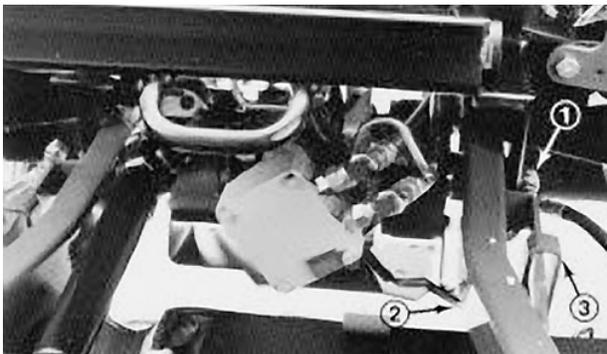

Figure 65
3. Disconnect the (3) hydraulic lines (quick couplers) and wire harness at the rear of the deck (Fig. 65).